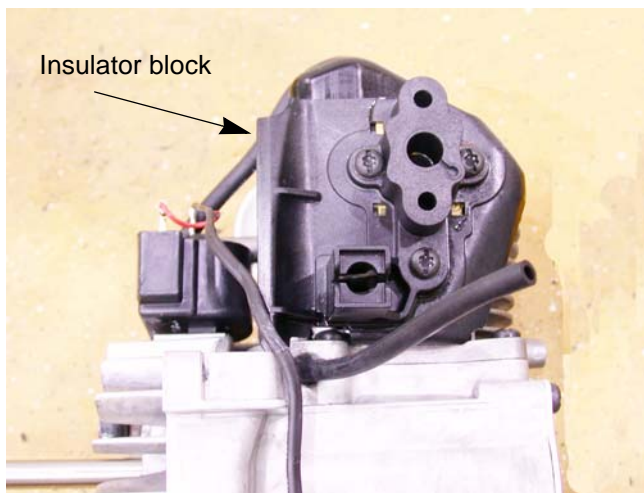

Figure 5.31
4. Remove the carburetor insulator block using a T-25 torx driver. See Figure 5.31.